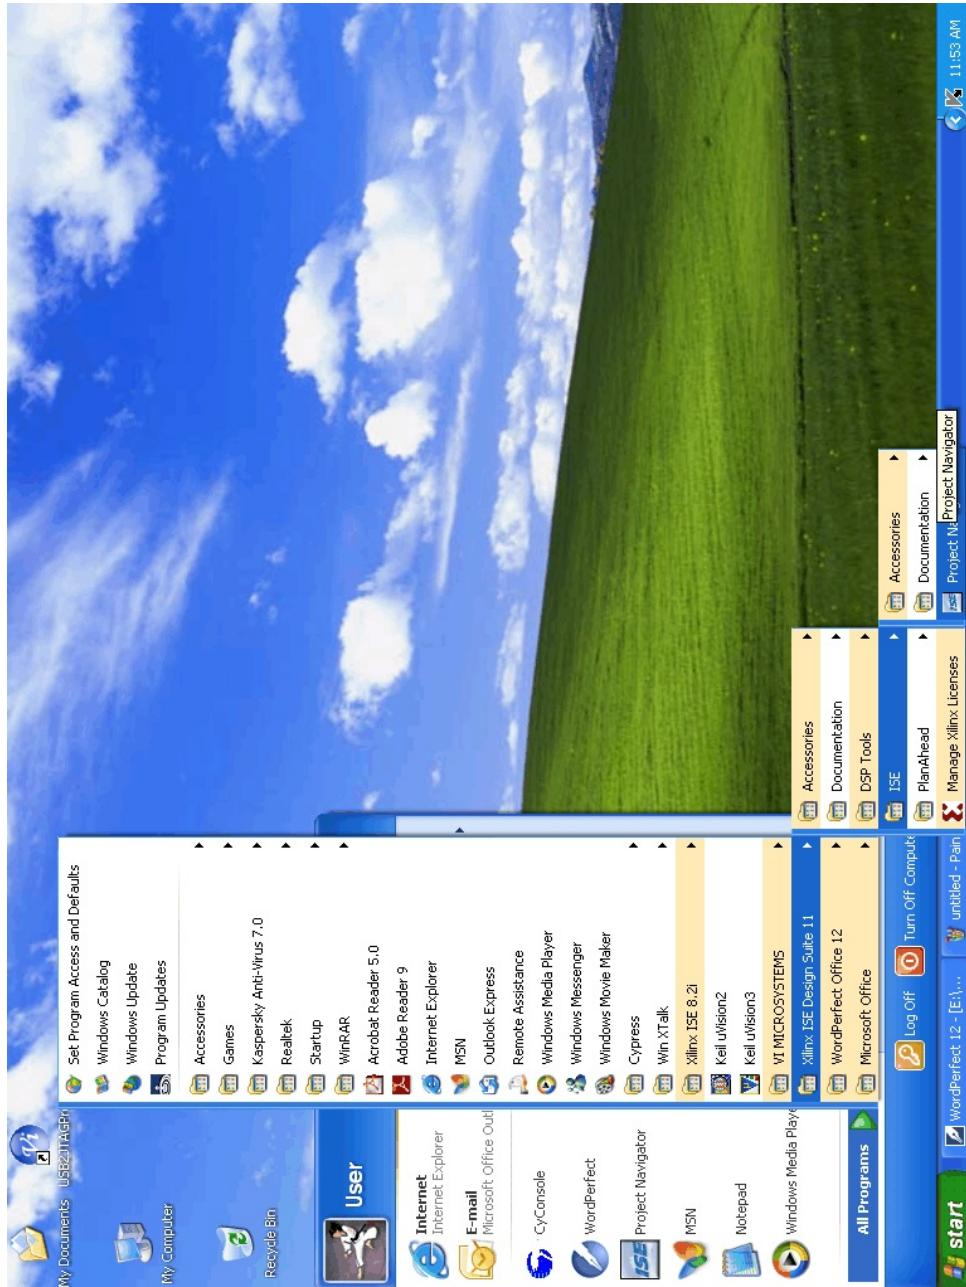
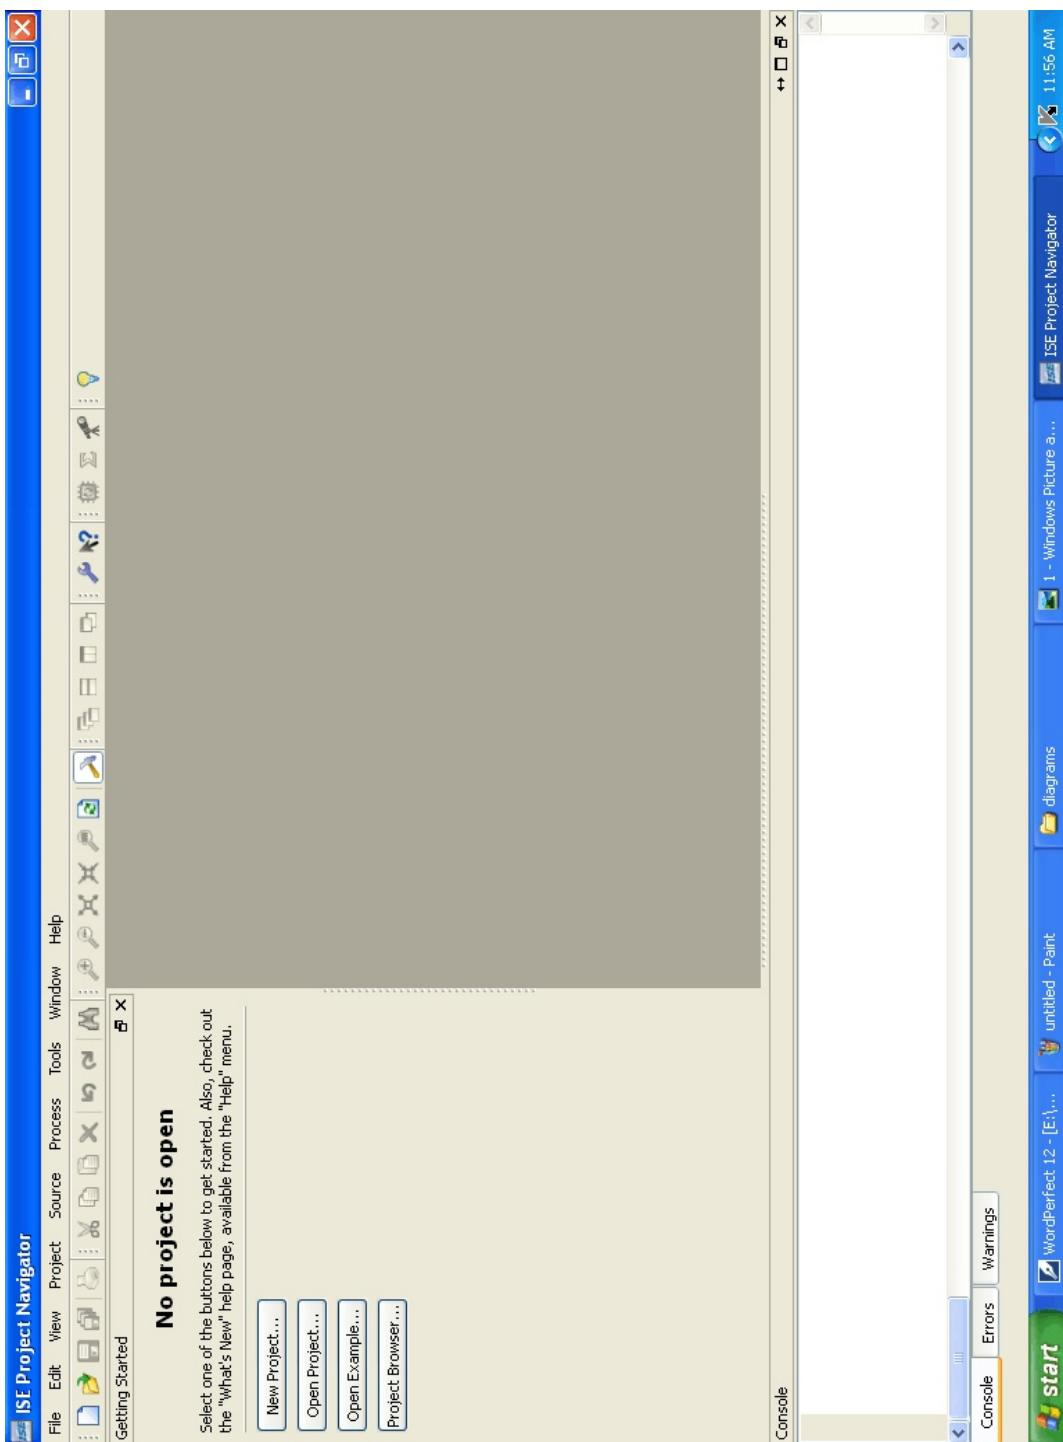

Figure-1
Figure-2
- ☞ After installing **Xilinx 11** software, go to Start menu ➤ Programs ➤ Xilinx ISE Design Suite 11 ➤ ISE ➤ Project Navigator (refer **Figure-1**). A Window shown in **Figure-2** will appear.